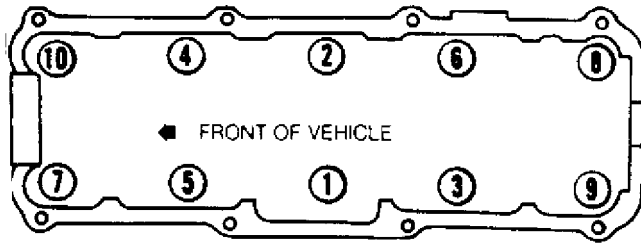

Fig. 2: Cylinder Head Tightening Sequence
3) Unbolt exhaust pipe support (if equipped). Disconnect exhaust pipe from manifold. Loosen alternator mounting bolts and remove upper alternator mounting bracket. Disconnect coolant hoses from head and remove any other hoses which may interfere with head removal. Remove valve cover. Loosen head bolts in reverse order of tightening sequence. See Fig. 2. Lift off head.
1) Lower head carefully onto gasket. Use Guide Pins (3070) to keep gasket and head aligned with block. Tighten cylinder head bolts in sequence in 3 stages. See Fig. 2. Tighten 12-point bolts to 29 ft. lbs. (40 N.m) in first step.